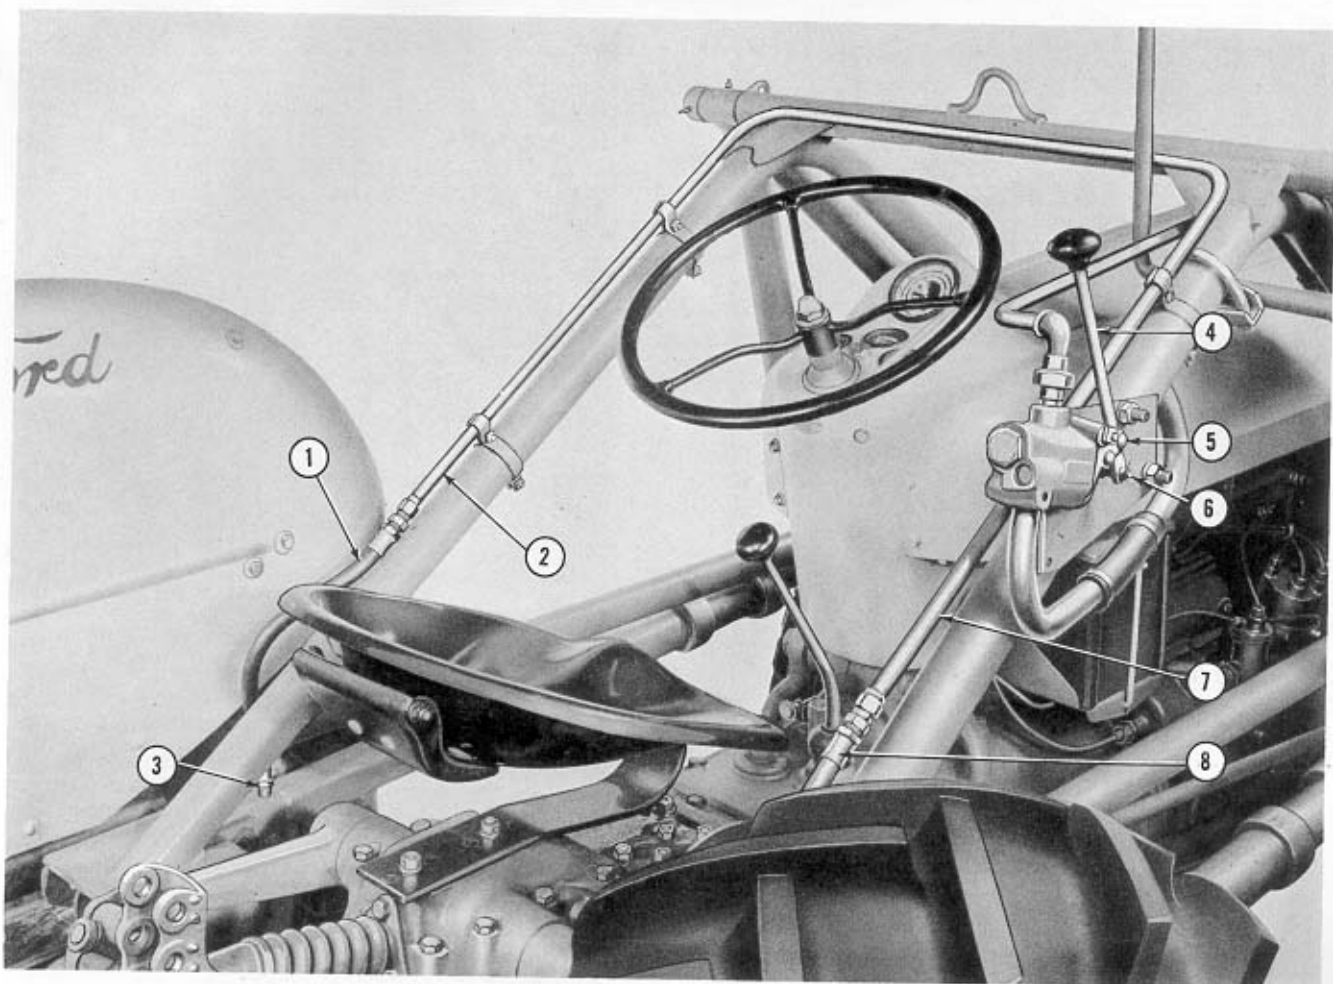

Figure 10
10. Place the control lever (4), Figure 10, on the pin (6) and secure with a cotter pin as shown. Connect the lever to the valve with the linkage as shown at (5).
11. Insert the externally threaded end of the hose sections (1) and (8), Figure 10, into the hydraulic cylinders and attach the internally threaded couplings to the high pressure lines (2) and (7).